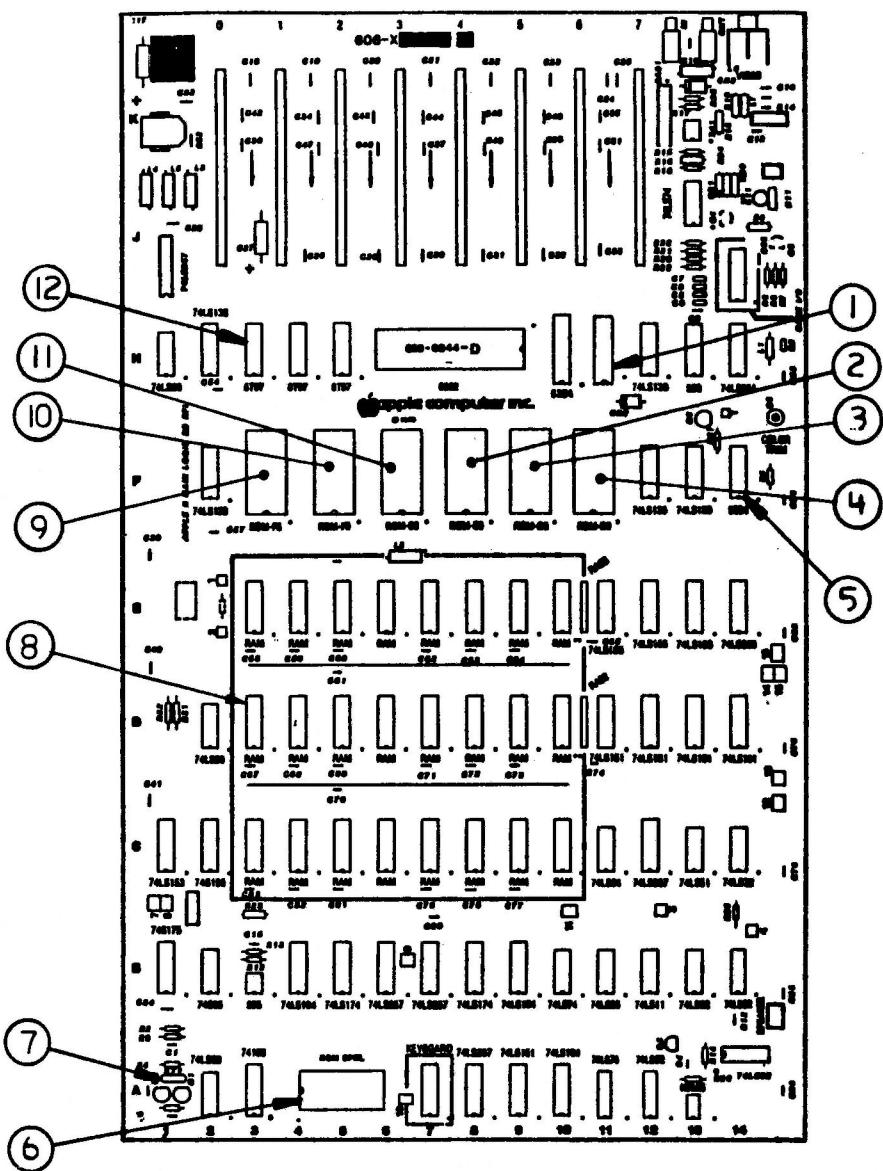

FIGURE 2
- IPL.5 Motherboard (Figure 2)
MOTHERBOARD (Figure 2)